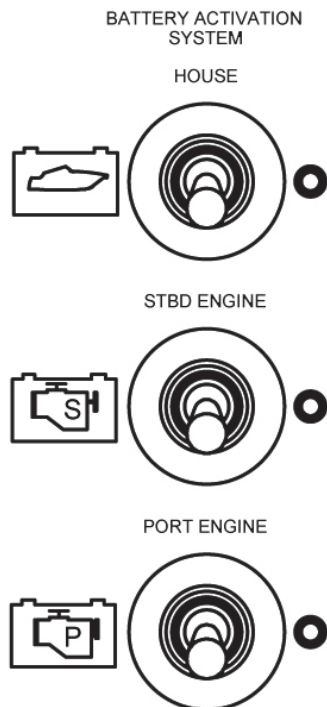

Figure H24: Battery Activation Switches - "OFF"
- 1b. On models with a Power Management Center, switch the HOUSE, STBD ENGINE and PORT ENGINE switches to the "OFF" position. See Figure H24.